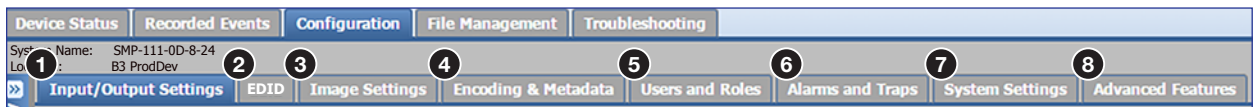

Figure 28. Configuration Tab and Subtabs
The pages within **Configuration** include the following (see figure 28):
⑥ **Alarms and Traps** (see page 49) — Set up the e-mail server and the sender and recipient e-mail addresses for notifications within this page. Select the alarm "priority" level for each of several types of errors or conditions monitored by the unit (see **figure 28** on the previous page).
⑦ **System Settings** (see page 51) —